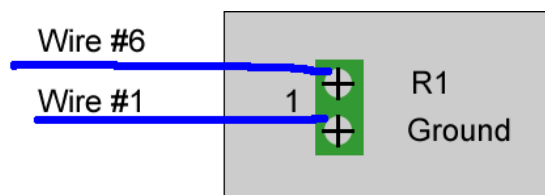

Fig 1. Wire connections for two-position MX Series II Modules. Wire colors will vary.
- (1) When the logic state is changed to OPEN, (HIGH or OFF), the valve will rotate to position 1. When the logic state is changed to CLOSED, (LOW, ON, or GROUND), the valve will rotate to position 2.
- (2) Wire the interface cable to the instrument for 1 line control (see fig 1)
- (3) See page 12 for 1-line level logic generic time programming example. (Note- the actual programming will vary depending on the manufacturer of the instrument used. Hookup documents for selected instruments are available at [http://www.rheodyne.com/support/.](http://www.rheodyne.com/support/))